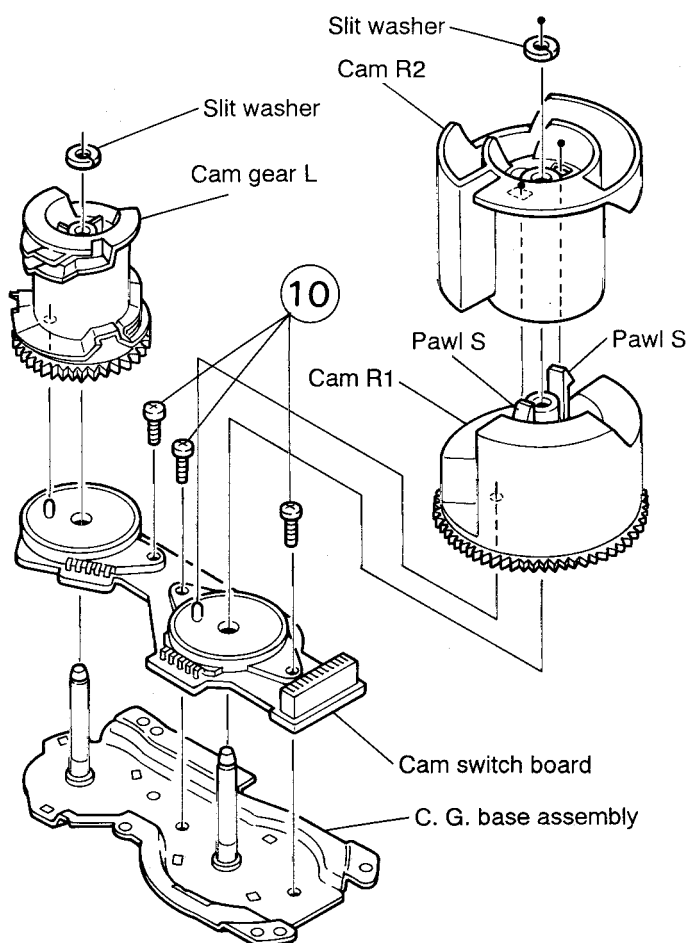

Fig. 5-37
■ Removing the cams R1/R2 assembly and cam gear L (See Fig. 5-37)
2. By removing the two pawls (S) fixing the cam R1, separate R2 from R1.
■ Removing the C.G. base assembly (See Figs. 5-37 and 5-38)